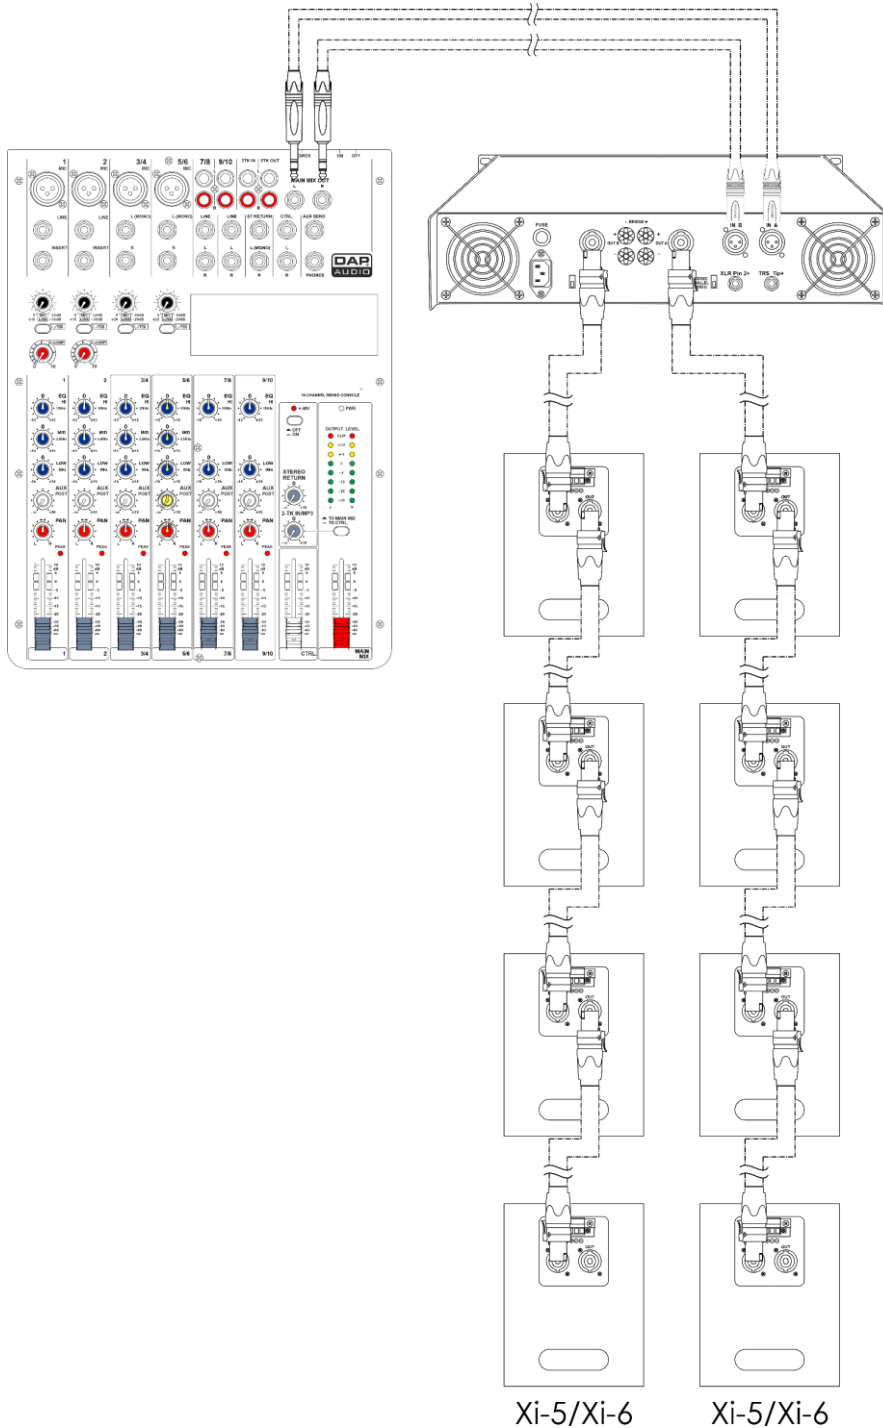
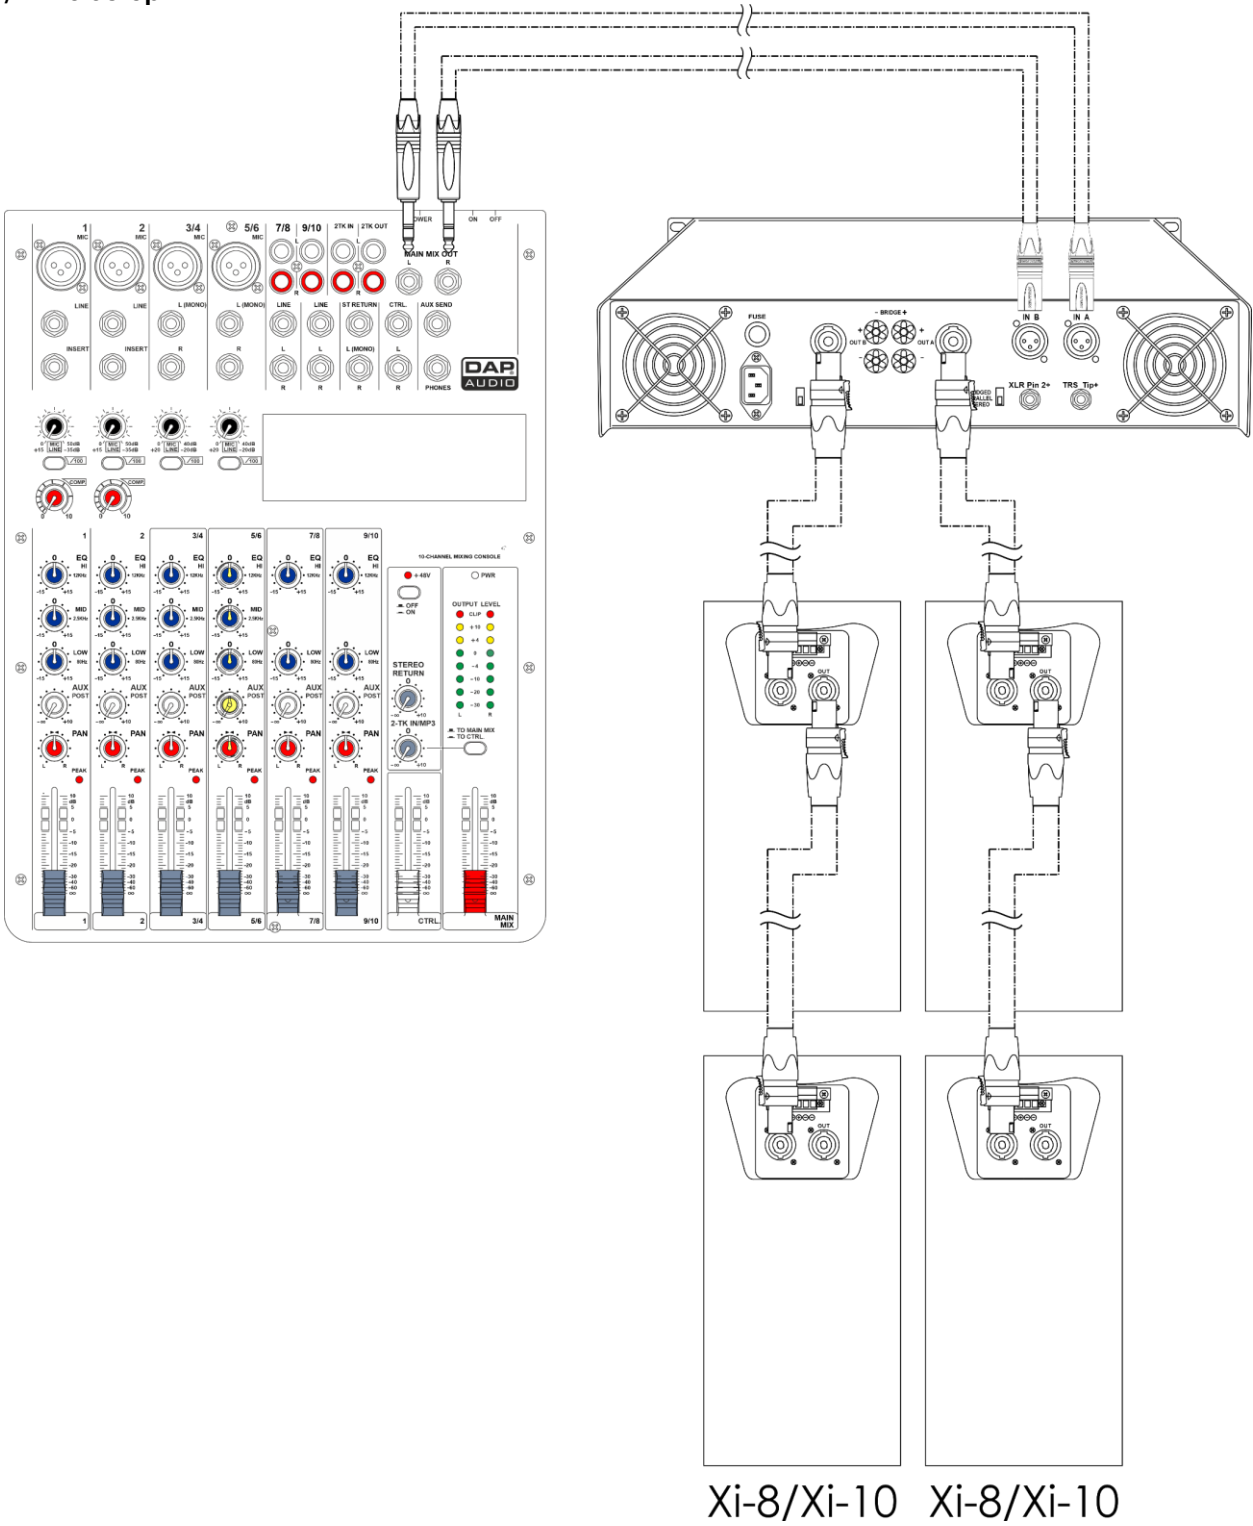

Fig. 04
Fig. 05
- With Speakon cables. See Fig. 04 and Fig. 05 on pages 9–10 for more information.